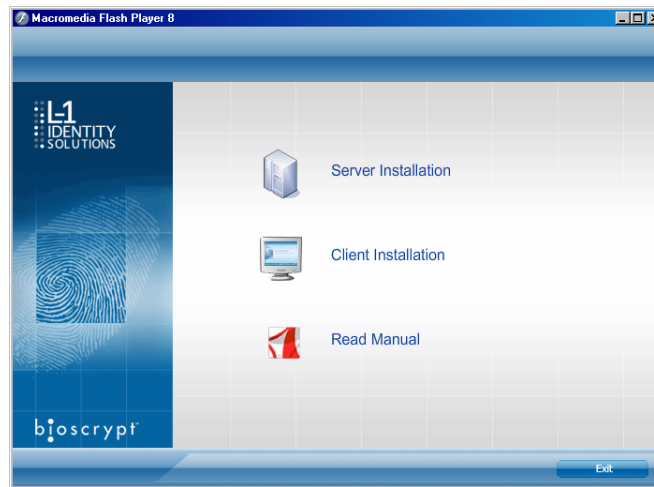

Figure 3-8: Menu
1. Insert the CD into the optical drive. If Autoplay is enabled, the installation process will start automatically. A menu is displayed (see Figure 3-8). If Autoplay is not enabled, start the installation process manually by doubleclicking the Setup.exe file located in the Bioscryptsetup folder on the root of the CD.